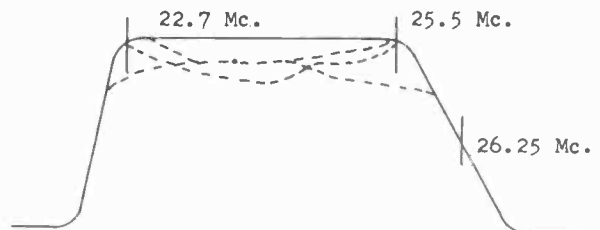

Fig. 19 IDEAL I.F. RESPONSE WITH PERMISSABLE VARIATIONS
- SEVENTH:** Observe the band width, relative position of the picture carrier, and flatness of the overall I.F. response curve. If necessary slightly vary the tuning of the picture I.F. coils L-39, L-41, L-42, L-43 and L-46 until the picture I.F. response shown in Figure 19 is obtained. The solid curve in Figure 19 depicts the ideal I.F. response while the dotted curves show permissible variations.
The picture I.F. carrier should appear approximately half way down the I.F. response curve as shown in Figure 19. Variation in the picture carrier position should not exceed  $\pm 10\%$  from the half way point.